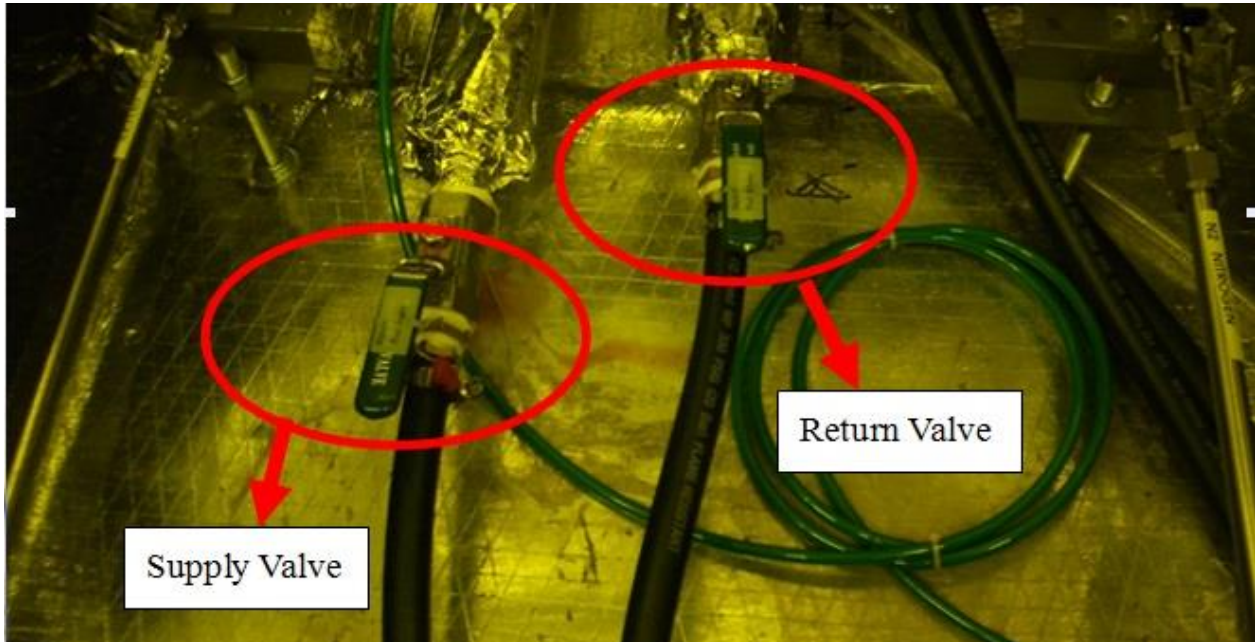

Fig.2 Location of cooling water valves underneath the floor
1. The valve of water **RETURN** is opened **FIRST** (Fig.2).
2. The valve of water **SUPPLY** is then opened after step 1 (Fig.2).